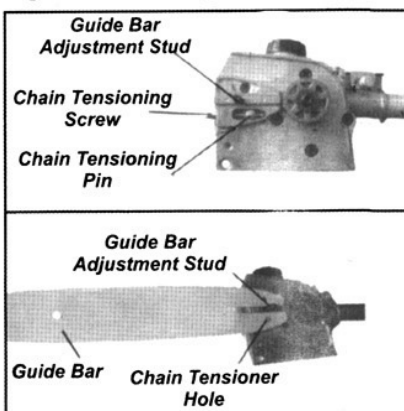

Figure 17
2. Place the guide bar over the guide bar adjustment stud on the cutting head assembly. Align the chain tensioning pin with the hole in the guide bar. See Figure 17.